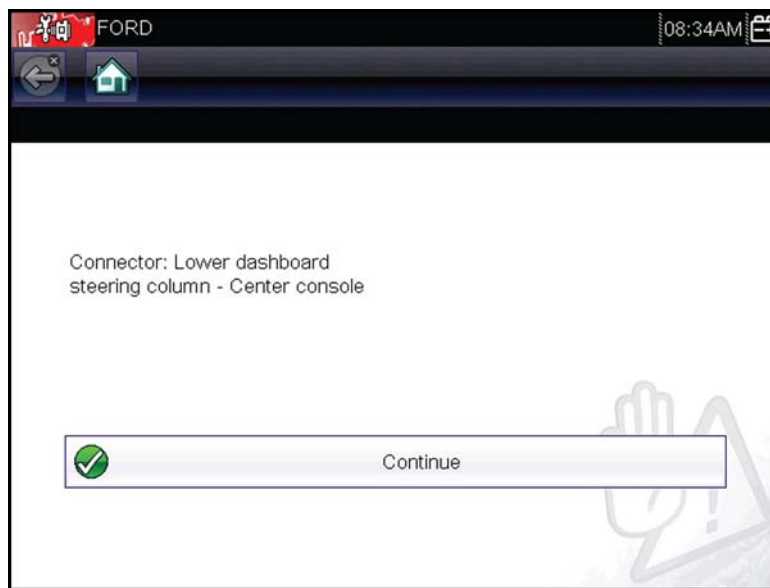

Figure 6-5 Sample connector location message
4. Select **Continue** and connector location information displays (Figure 6-5)